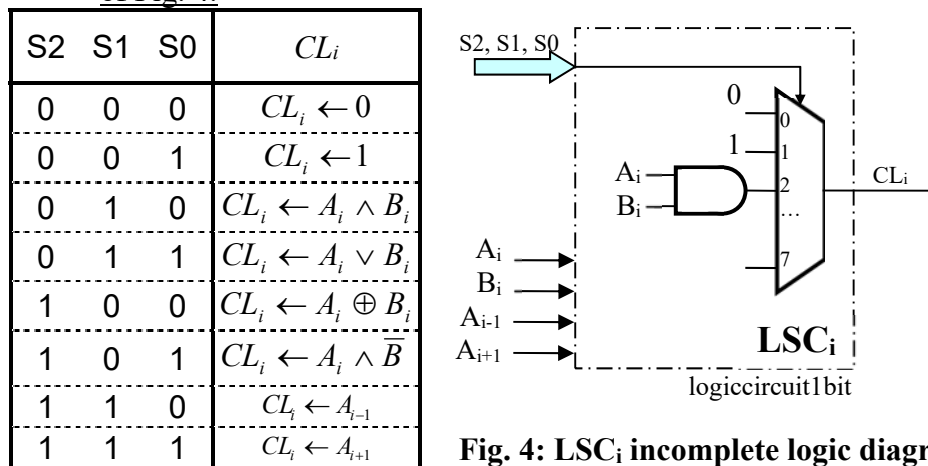

Fig. 4: LSC_i incomplete logic diagram
5.3.1. Add all the logic gates that are required to complete the LSC_i logic diagram of Fig. 4.